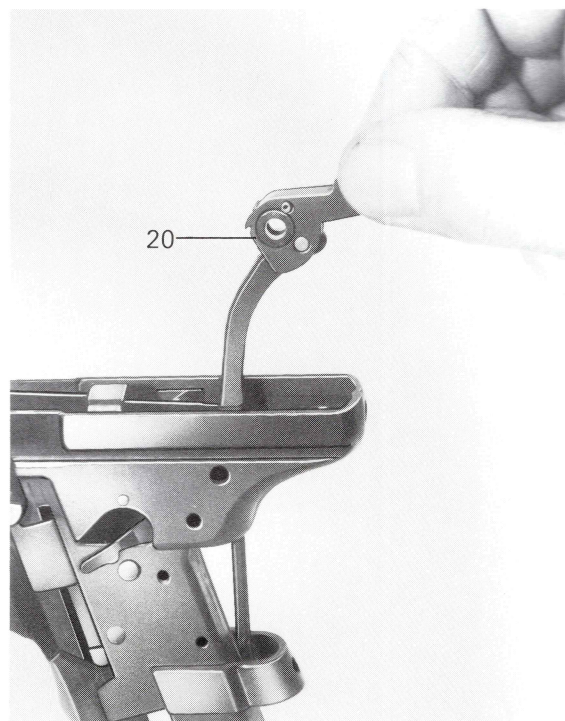

Fig. 42
- Allow the trigger to travel forward again, swivelling the pull bar into the recess in the catch lever (17).
- Fit the hammer (20) (Fig. 42), feeding it downwards until it is correctly positioned.